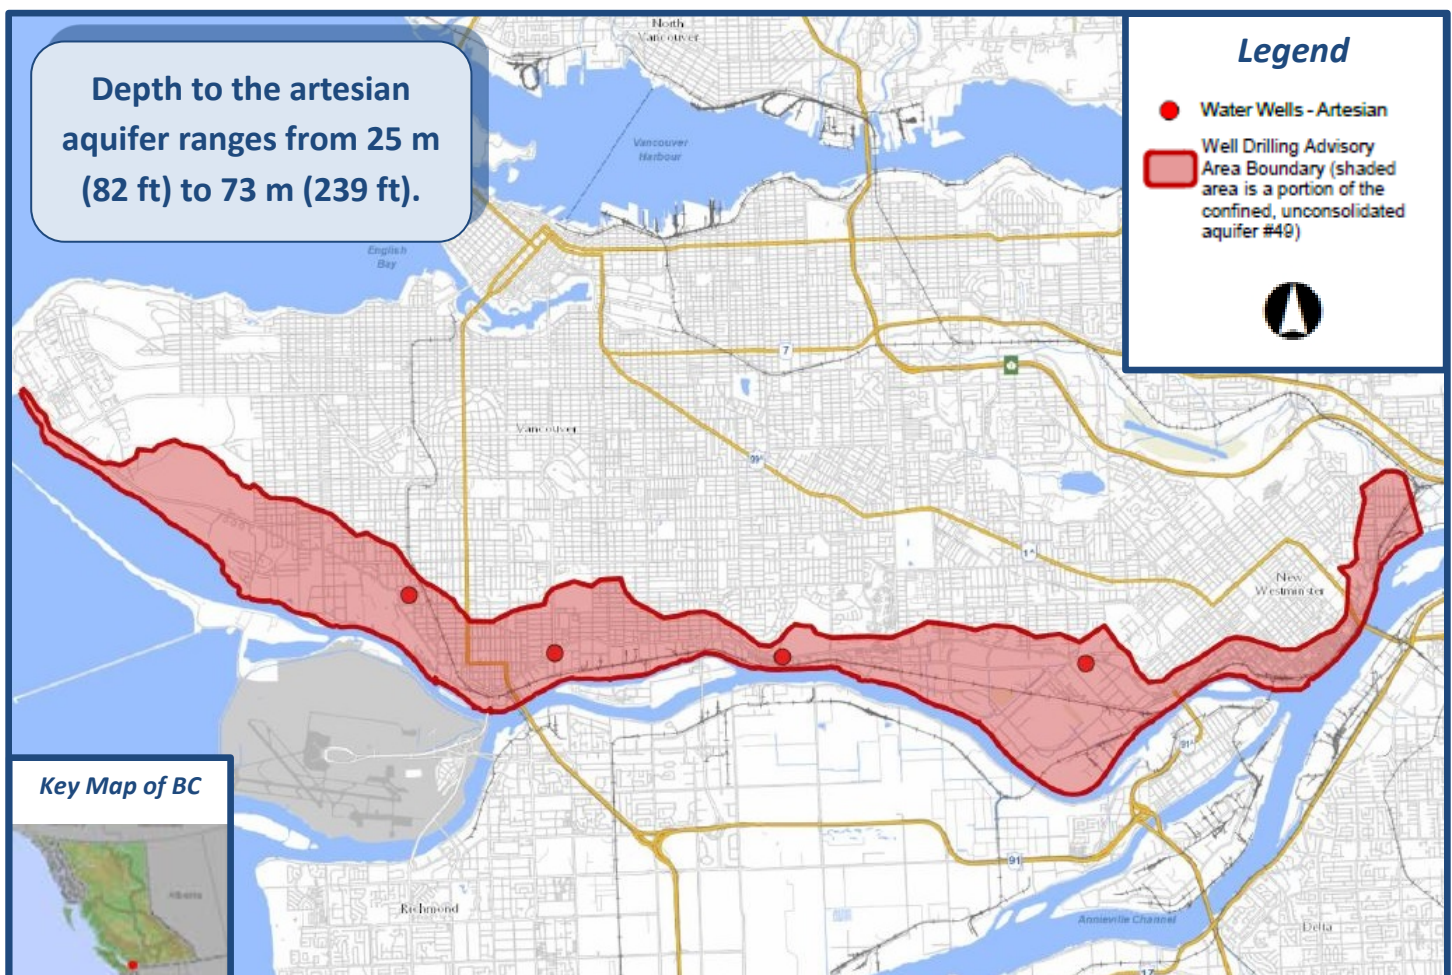

Figure 2: Map of the location of potential flowing artesian conditions (part of aquifer #49) in Vancouver, Burnaby and New Westminster, B.C.
Aquifer #49 underlies most of Vancouver, Burnaby and New Westminster, and it is comprised of the glaciomarine sands and gravels of the Quadra Sands formation. In 2015, an uncontrolled flowing artesian well was drilled into this aquifer on a residential lot on Beechwood Street in the Kerrisdale area of Vancouver, resulting in significant costs to control and decommission the well. The hydrogeological conditions for this aquifer are not well-defined due to the limited number of well records available. However, there is potential for the conditions that exist at the Beechwood Street well to exist in other areas of the aquifer, in particular where the aquifer is confined and the ground slopes towards the Fraser River (Figure 2).
Aquifer #49 ranges from unconfined to confined and based on limited well records available, there are areas that are not likely under artesian pressure (e.g., areas of the aquifer outside the boundary on Figure 2). In addition, a shallow unconfined aquifer within the subject area (aquifer #45, which is comprised of recent Fraser River sands and gravels) likely does not have artesian conditions; however, if you drill through aquifer #45 into an underlying confined aquifer, there is an increased likelihood of encountering flowing artesian conditions.
It is important to understand that geologic conditions are highly variable and information may not be available near the proposed drilling location(s); therefore, neither the presence nor absence of flowing artesian conditions can be known with certainty prior to drilling. Therefore, when drilling into the in the south portion of aquifer #49 as it slopes towards the Fraser River (see Figure 2) in Vancouver, Burnaby and New Westminster, it should always be assumed that flowing artesian conditions will be present and assume a precautionary approach (e.g., installing and sealing a surface casing of sufficient length). The well driller and home owner must be prepared for the resulting costs, planning time, materials, expertise and equipment needed to construct the well to control or stop any artesian flow.
- Assume flowing artesian conditions will be encountered in the subject area (Figure 2).